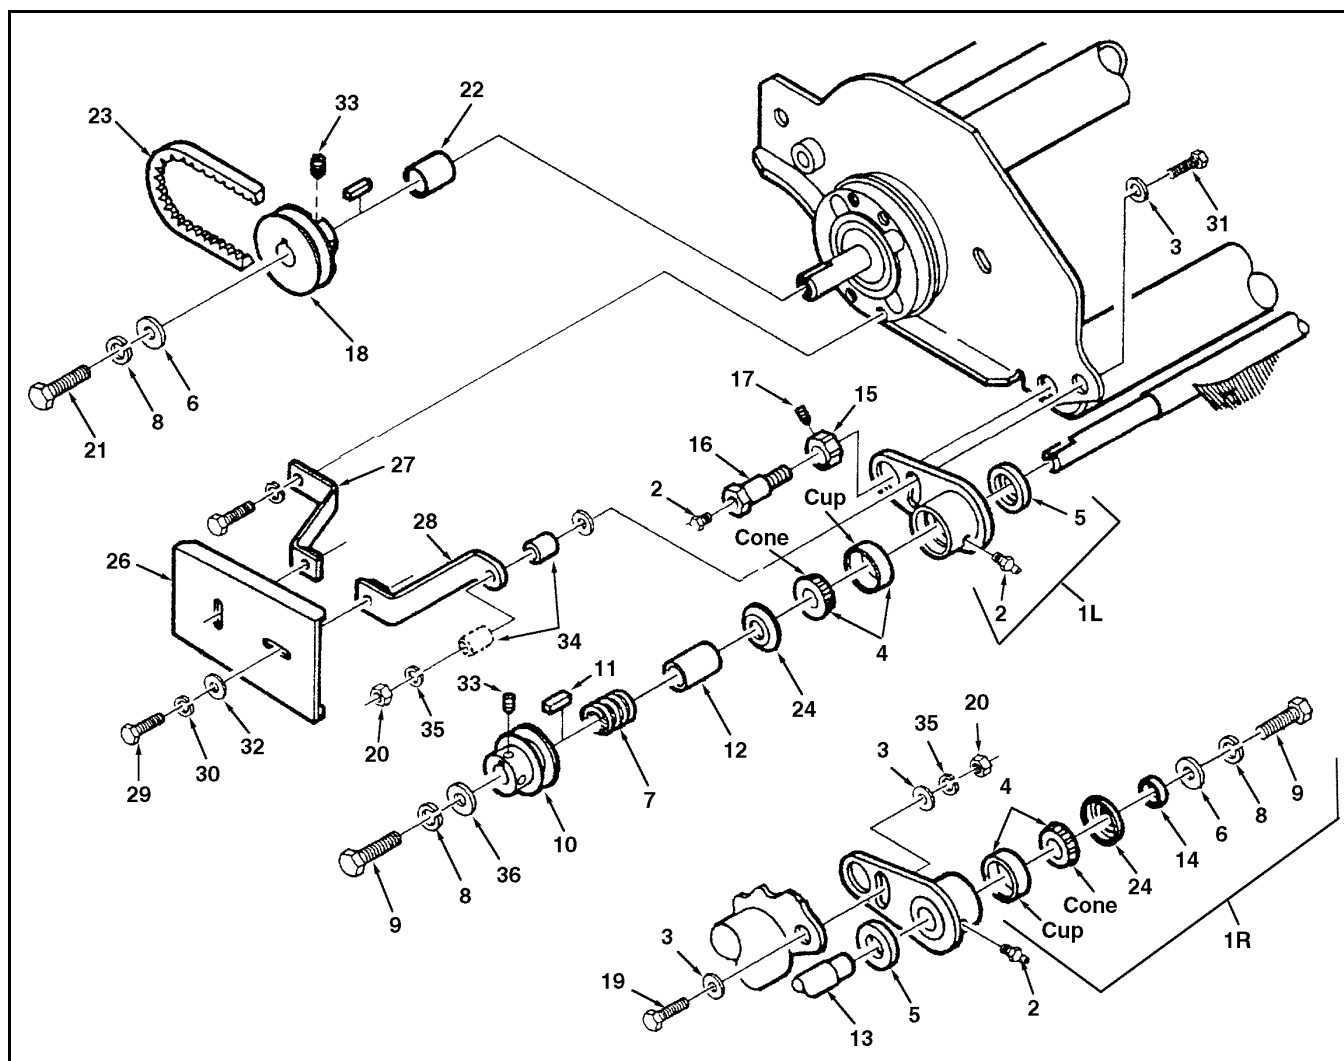

Figure 13D-1. Power Rear Roller Cleaner
1. Remove and discard the existing hardware holding the rear roller in place (Figure 13D-1).
- a. Attach the grease fitting (2) to the roller mounting bolt (16).
- b. Loosely assemble the setscrew (17) to the eccentric nut (15).
- c. Slip the eccentric nut (15) over the bolt (16), and fasten to the roller. The setscrew is to be positioned towards the outside of the reel on both sides.
2. Assemble the right side bearing housing (1R) as shown in Figure 13D-1. The seal (5) and cup portion of the bearing (4) is pre-assembled.
- a. Place the bearing (4), nilos ring (24), and spacer (14) into the housing.
- b. Insert the short end of the roller shaft (13) into the housing and secure the two assemblies together with one 3/8 in flat washer (6), 3/8 in lockwasher (8), and one 3/8-16 x 3/4" screw (9).
- c. Attach the grease fitting to the bearing housing, then fully tighten the screw (9).
3. Slide the housing and brush over the right side eccentric adjuster. Secure the housing to the frame with one 5/16-18 x 1" screw (19), 5/16" flat washers (3) on both sides, 5/16" lockwasher (35), and one 5/16-18 nut (20).
4. Assemble the left side bearing housing (1L) as shown in Figure 13D-1.
- a. Insert the roller bearing (4) and nilos cup (24) into the housing.
- b. Slide the subassembly over the shaft and onto the eccentric adjuster. Make certain the set screw (17) is facing the outside of the frame.
5. Place on 5/16-18 c 3/4" screw (31) with one 5/16" flat washer (3) as shown in Figure 13D-1. Add the remaining components:
- a. Spacer (34) is behind the bracket (28) when a Jacobsen Turf Groomer is used.
- b. Spacer (34) is assembled in front of the bracket (28) when the Jacobsen Turf Groomer is not used.
- c. Add one lockwasher (35) and nut (20), but do not tighten.
6. Complete the brush assembly by adding one spacer (12), spring (7), and the key (11).
- a. Align the keyway in the pulley (10) and slide the pulley over the key and shaft.
- b. Add one 7/16" flat washer (36). When using the brush with the Jacobsen Turf Groomer, add one lockwasher and one 3/8-16 x 3/4" screw (8 and 9).
7. Loosely assemble the shield brace (27) to the mower's bearings housing as shown in Figure 13D-1.
8. Slide the corresponding spacer (22) over the shaft (depending on the diameter of the shaft). If required add one key (11).
- a. Assemble the setscrews (33) to the pulley if required.
- b. Place the belt (23) onto the groove of pulley (10) and pulley (18).
- c. Slide pulley (18) onto the reel shaft edge and add one 3/8" washer (6), 3/8" lockwasher (8) and 3/8-24 x 1" bolt (21).
9. Attach the belt shield (26) to braces (27 and 28) using a 1/4" flat washer (32), lockwashers (30), and 1/4-2- c 3/4" screw (29) as shown in Figure 13D-1. Add a nut (40) if using the other bracket.